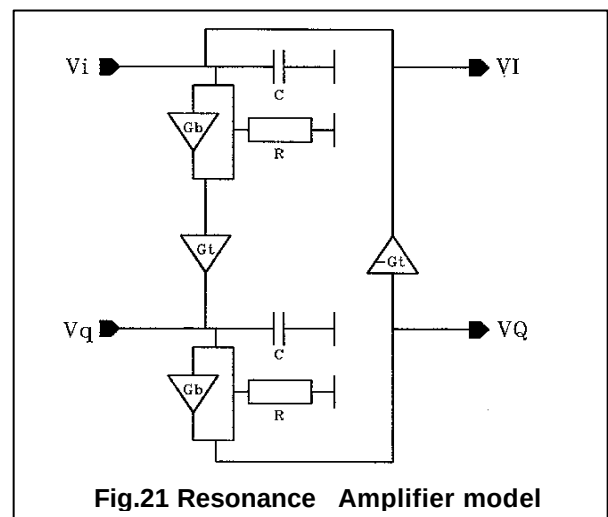

Fig.21 Resonance Amplifier model
- The **IF2 selectivity** has been build with integrated time-continuous adaptive filters, whose instantaneous bandwidth is determined by all relevant system parameters. The improved of the filter structure and its bandwidth control algorithm deliver higher dynamic selectivity, improved sensitivity and low THD at high frequency deviation without any audible artefacts. The automatic alignment of the centre frequency eliminates IF channel tolerances ($<1.3\text{kHz}$ using a 7 bits DAC) and makes it suitable for global receiver applications. The integrated filter of transconductance resonance amplifier topology (see Fig. 21) gives the possibility to adjust the centre frequency and the bandwidth by currents. This because the centre frequency is determined by $F_r = G_t / 2\pi C$ and the bandwidth $B = 1 / \pi R_d C$, with $R_d = R / (1 - R G_b)$. Complex realisation of the 4th order filter takes care for image rejection, optimum group-delay characteristic and symmetrical filter behaviour.